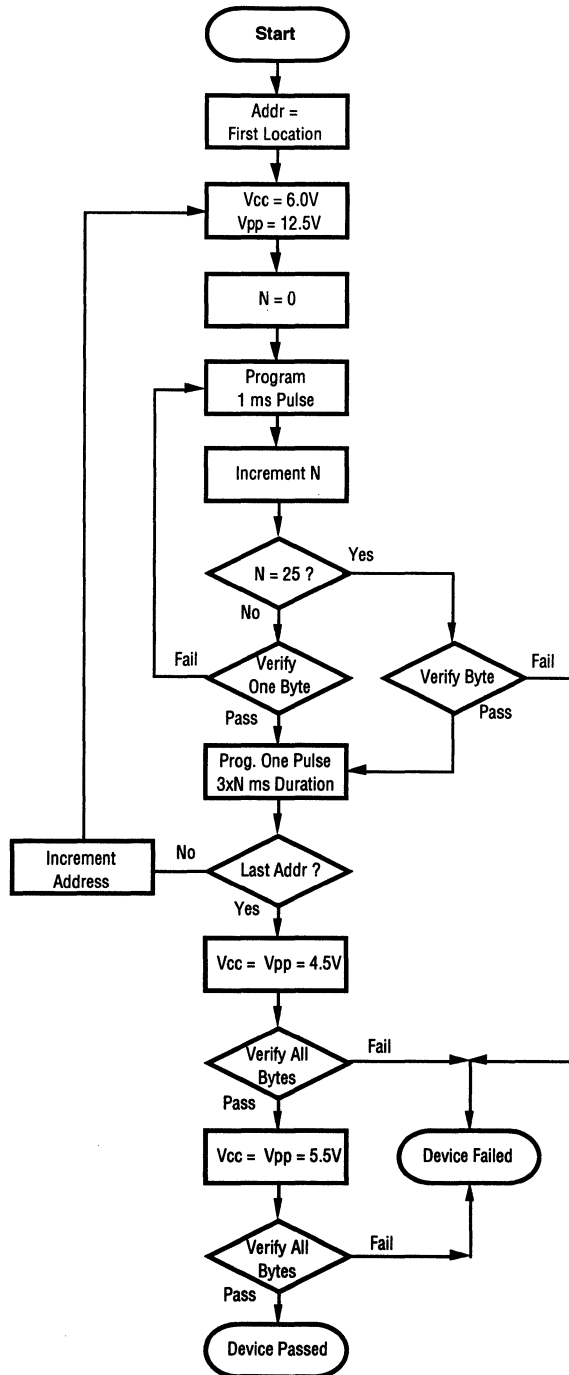

Figure 20. Z86E04 Programming Algorithm
**Programming Algorithm.** Figure 20 shows the flow chart of the Z86E04 programming algorithm.